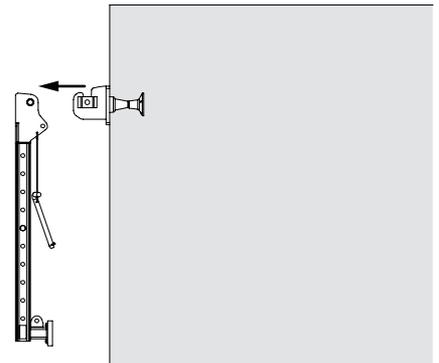
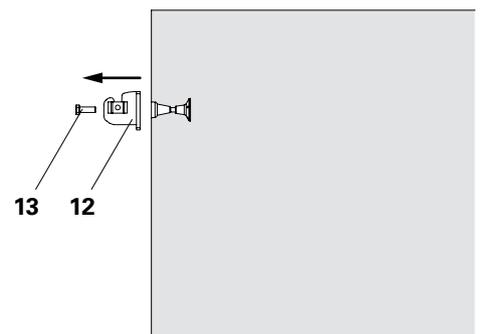

Fig. C3.08
Fig. C3.09
- Dismantle and remove the Bracket Unit. (Fig. C3.08)
- Release bolt ISO 4014 M24 x 70-10.9 (23) and remove the Suspension Head VGK (12).
- Remove the anchors and close the anchor holes, e.g. with PERI Concrete Cones, see Section A5. (Fig. C3.09)